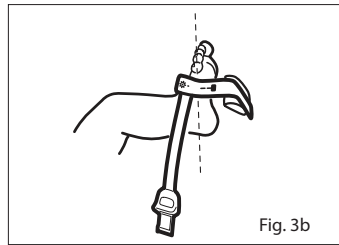

Fig. 3b
3. Refer to Fig. 3b. Direct the sensor cable toward the ankle (or wrist). Apply the sensor around the lateral aspect of the foot (or hand), aligned with the fourth toe (or finger). Complete coverage of the detector window is needed to ensure accurate data.